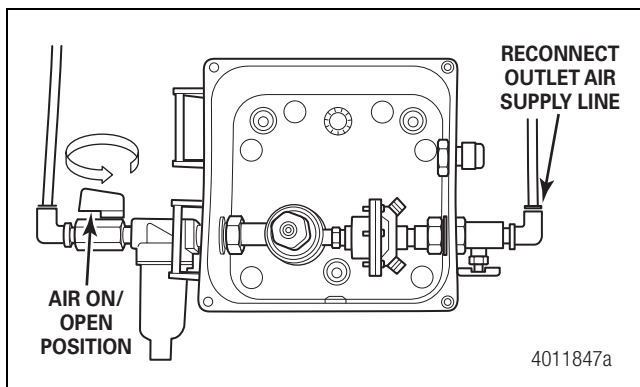

Figure 3.17
- D. Reconnect the outlet air supply line. Figure 3.17.